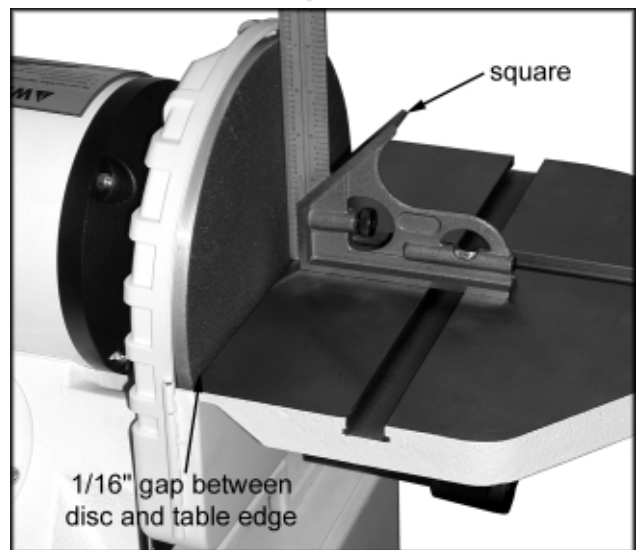

Fig. 11
2. Place a square on the table next to the sanding disc (Figure 11). Loosen locking handle and move the table to 90°. Tighten locking handles.